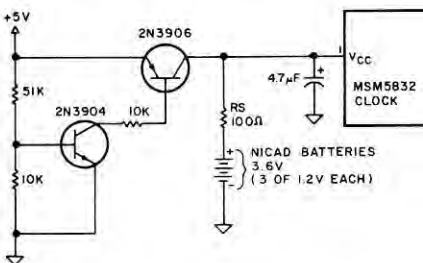

Fig. 4. Battery Back-Up
The MSM5832 chip also provides the capability for a rechargeable Nicad battery back-up in case of system power failure. Figure 4 shows the schematic for this circuit. This is also shown in the MSM5832's data sheet. Q1 and Q2 work together to make up a solid-state switch.
D) Clock Battery Back-up Parts List (Fig. 4)